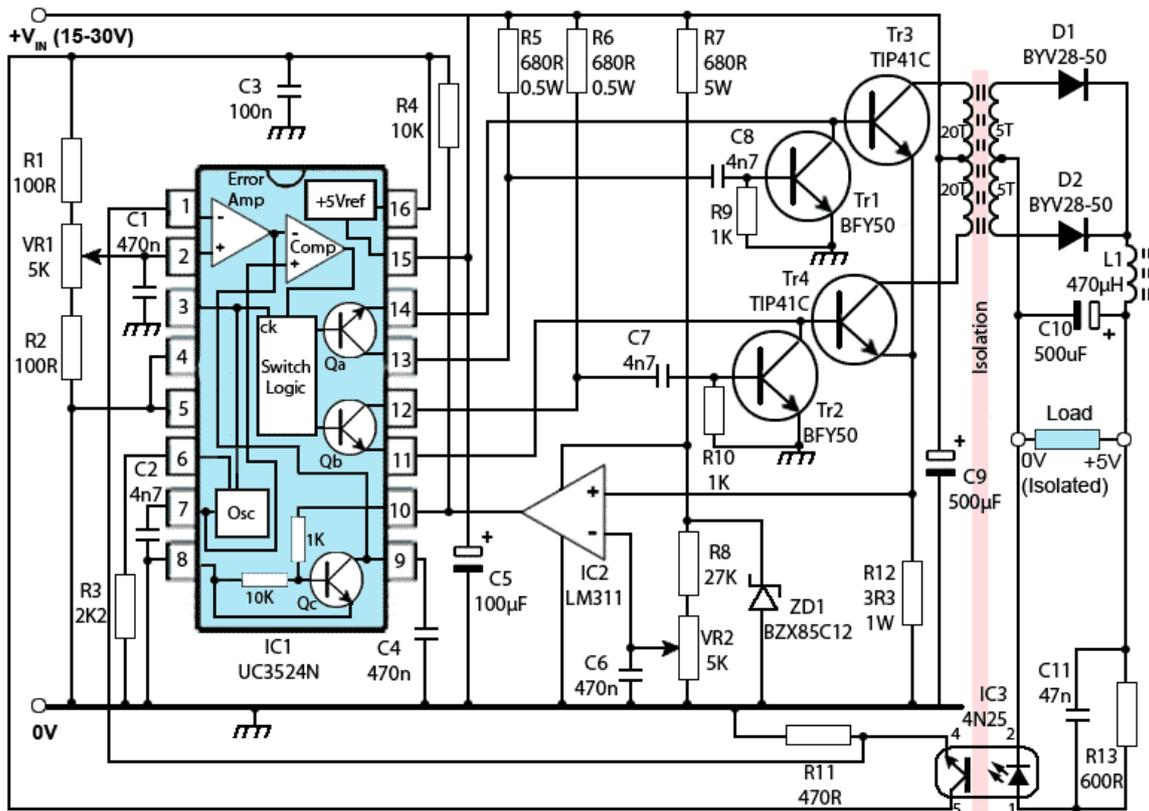

Fig. 3.5.3
Refer to Fig. 3.5.3. What is the purpose of Tr1 and Tr2?
**Refer to Fig. 3.5.3. What is the purpose of IC2?**
**Refer to Fig. 3.5.3. What type of signal will be present at pin 4 of IC3.**